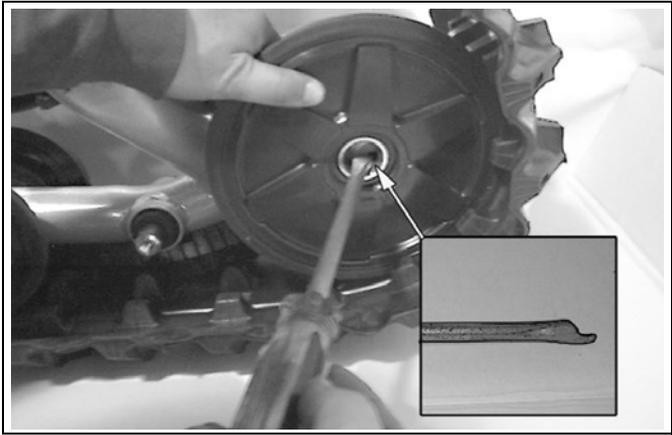

Figure 25
- If working on rear track systems, re-install the 134-mm wheels (refer to Figure 25).